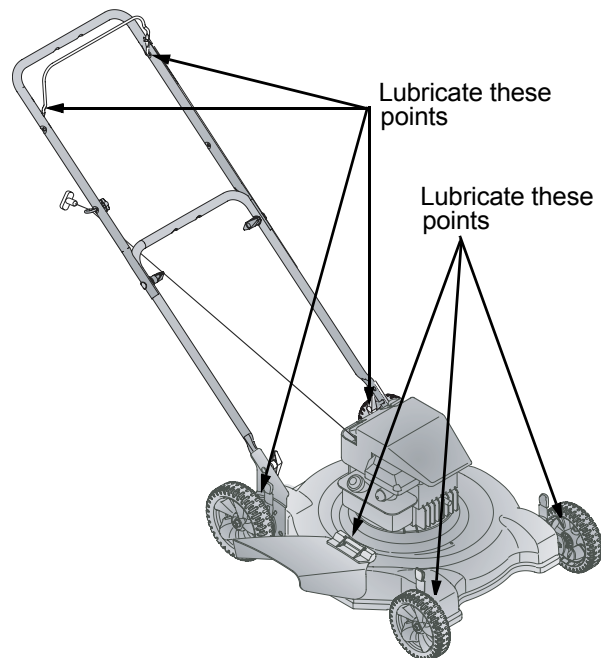

Figure 10
- Lubricate the pivot points on the blade control handle at least once a season with light oil. The blade control must operate freely in both directions. See Figure 10.
- Lubricate the torsion spring and pivot point periodically with light oil to prevent rust. See Figure 10.